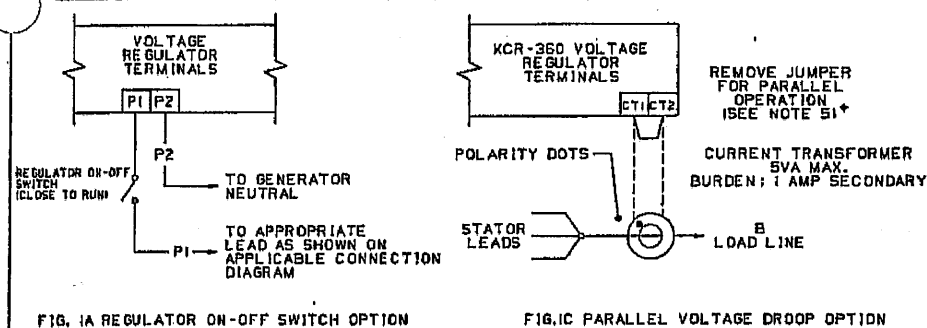

FIG. 1A REGULATOR ON-OFF SWITCH OPTION
- NOTE 3 CONNECTION OF OPTIONAL REGULATOR ON-OFF SWITCH IS SHOWN IN FIGURE 1A.